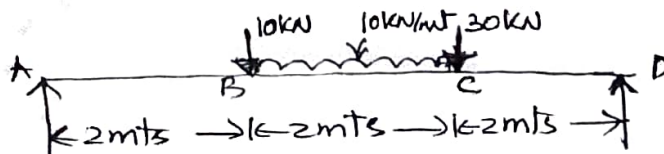

Fig. Q3 (a)
- 3 a. Draw BMD and SFD for beam shown below in Fig. Q3 (a). (10 Marks)